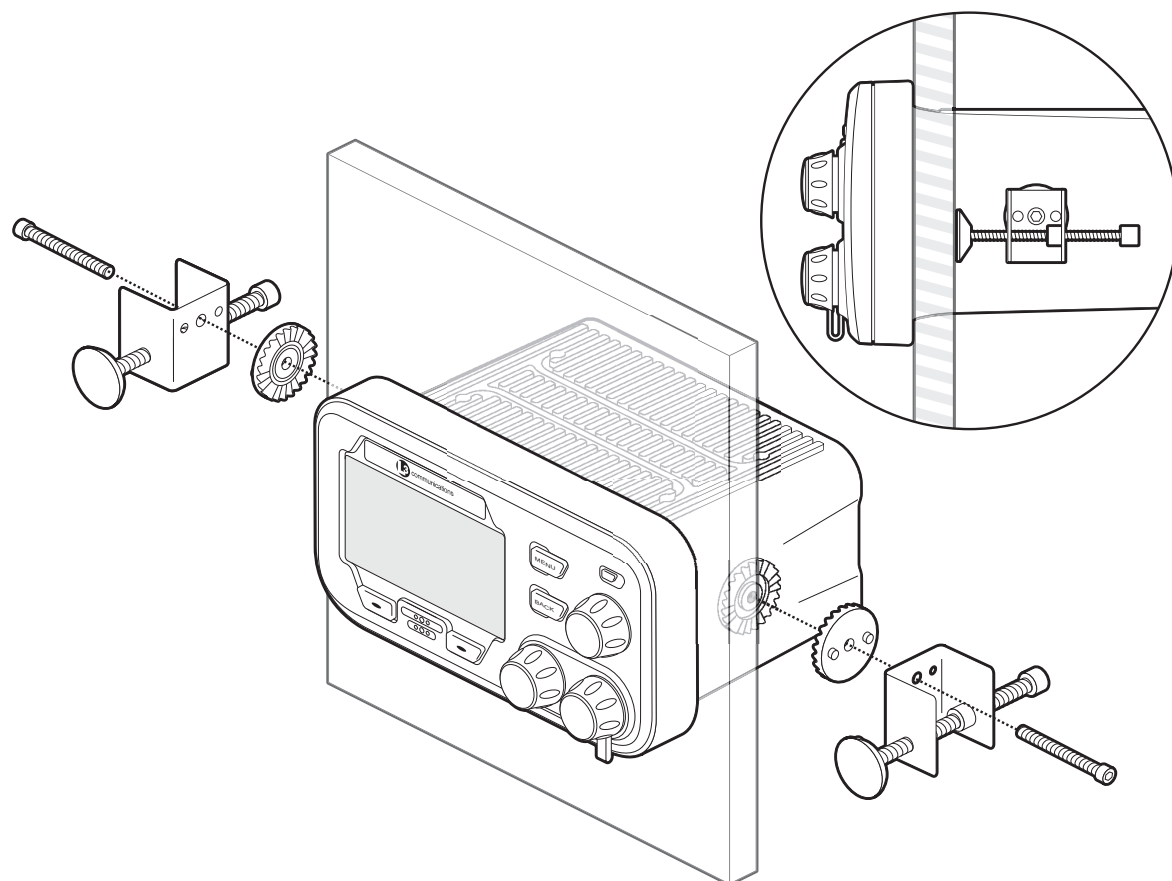

Figure 39 Panel mounting the AIS transceiver
- The transceiver is supplied with panel mount clamps for flush mounting through an instrument panel. Please refer to Figure 39 for guidance. Access behind the panel is required when using this mounting option.